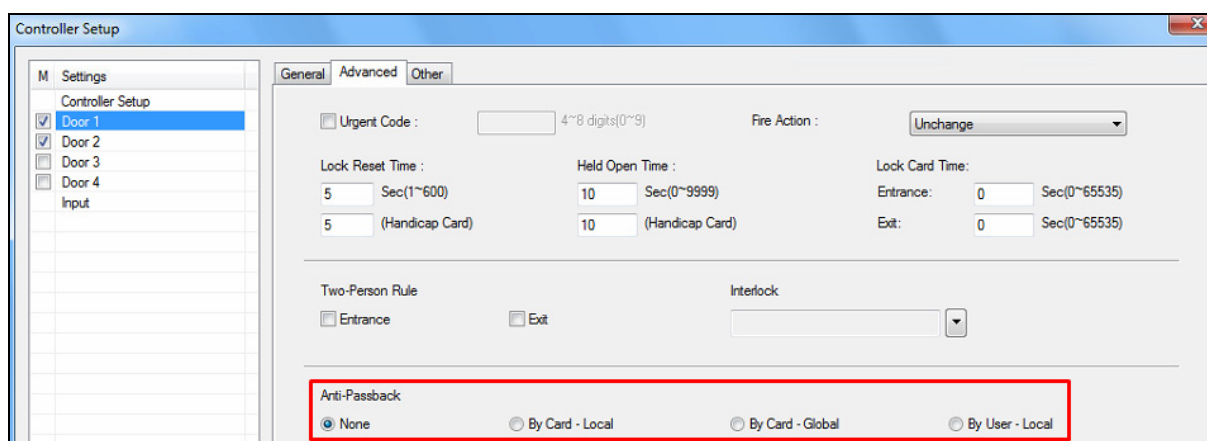

Figure 6-1
4. In GV-ASManager, select **Local Anti-Passback** (Figure 6-1) to start the function.
Select **By Card – Global** at each **Door** tab of the Controller Setup dialog box (Figure 6-1).